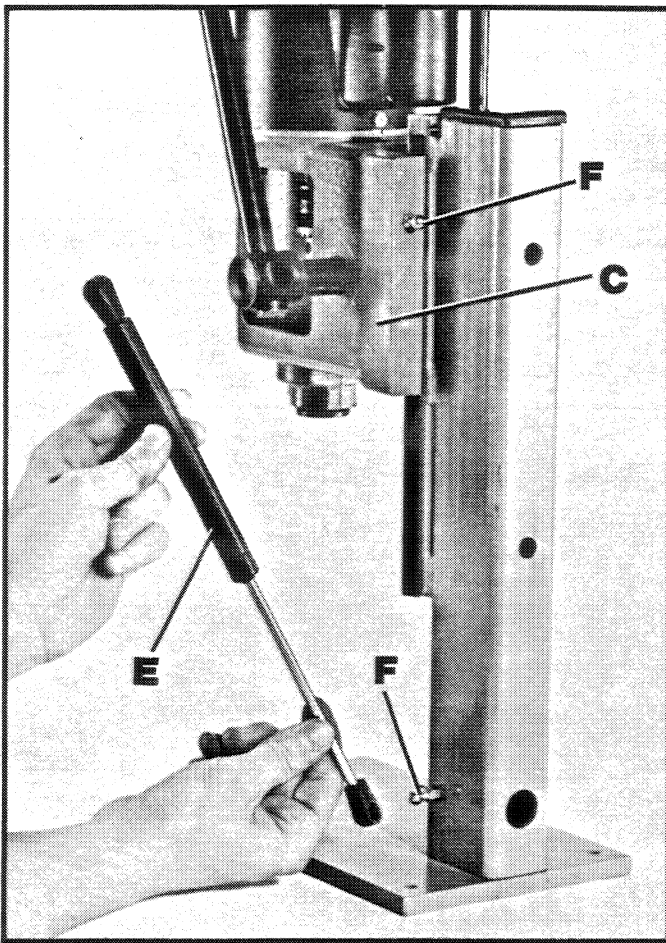

Fig. 4
3. Make sure the head (C) Fig. 4, is held in the up position and assemble the hydraulic cylinder (E) to the two fittings (F), one located on the column and the other on the back of the head.